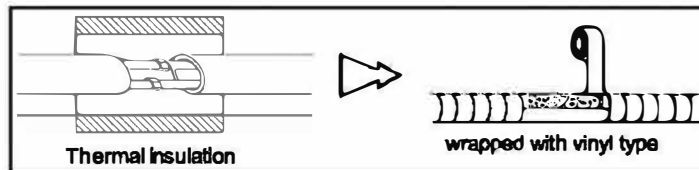
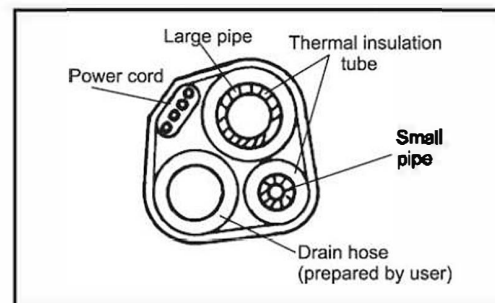

Fig. 419
Fig. 421
7) After connecting piping as required, install the drain hose. Then connect the power cords. After connecting, wrap the piping, cords and drain hose together with thermal insulation materials(Fig. 419 ~ Fig.421).